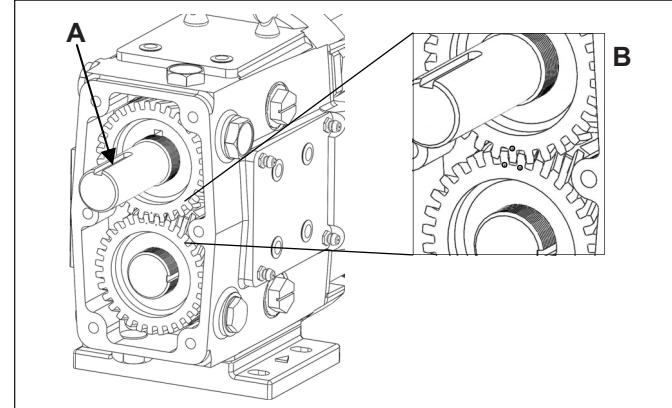

Figure 53. Installing Gears with Correct Timing
8. Once the gear keys are installed, orientate the shafts so that the keyways on the drive shaft are pointing in the 12 o'clock direction (*Figure 53, A*). Slide the right-handed gear with the single punch mark onto the drive shaft. Slide the second gear with two punch marks on the short shaft. To time the gears, align so that the single punch mark falls between the two punch marks on the opposite gear (*Figure 53, B*).